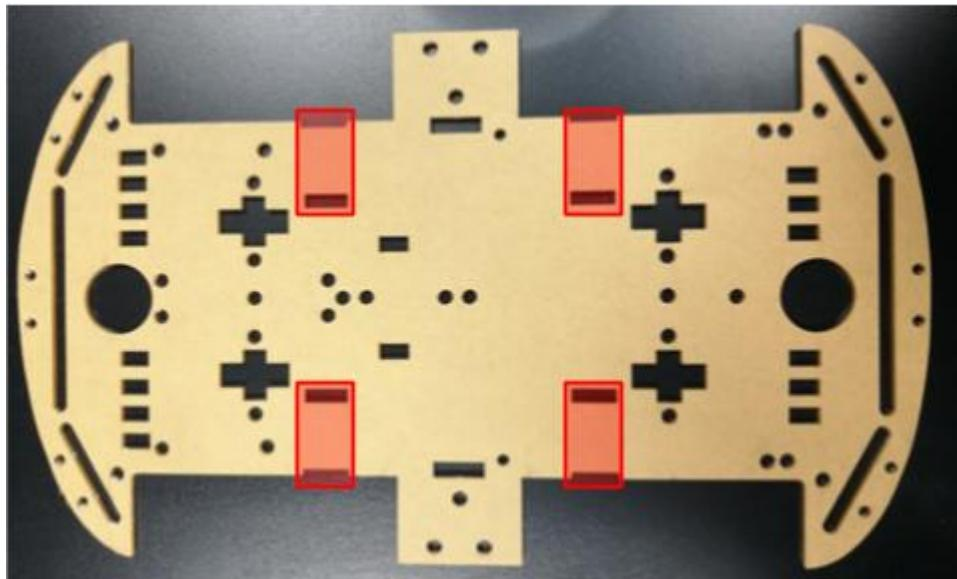
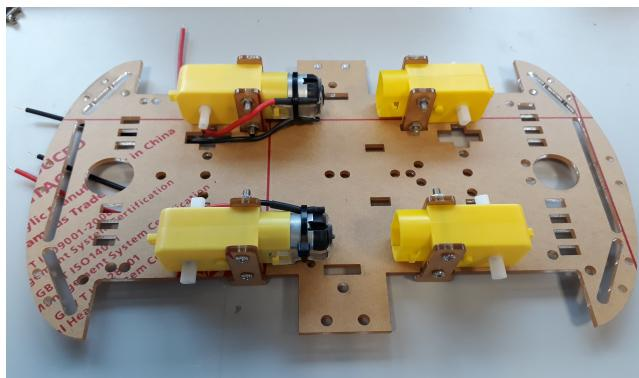

Figure 5: Plates that make up the structure of the Buggy. The holes highlighted in red are where the motors are to be mounted.
Figure 7: All four motors attached in correct orientation
Step 1: The main components of the buggy are two large plastic plates. Go and find these in the buggy kit (see figure 5). Choose one of the plates to be the *base* to your buggy, and one to be the *top*.
Step 2: Now go and find the gear boxes for the buggy, they are bright yellow and look what is shown in figure 6, there should be two with wires coming out of them, and two without any wires. The gear boxes with wires have motors, the gear boxes without wires don't have any motors. At each corner of the base plate, there are slots to attach each of the four gear boxes, as highlighted in red in figure 5. Using two of the t-shaped plastic pieces shown in figure 6, the mount the motor to the bottom of the base plate by placing one on each side. Also look at figure 7 to show you how the finished product should look. Note, in figure 6 the two gear boxes with wires are mounted together, and the ones with no wires are mounted together. You should do the same.